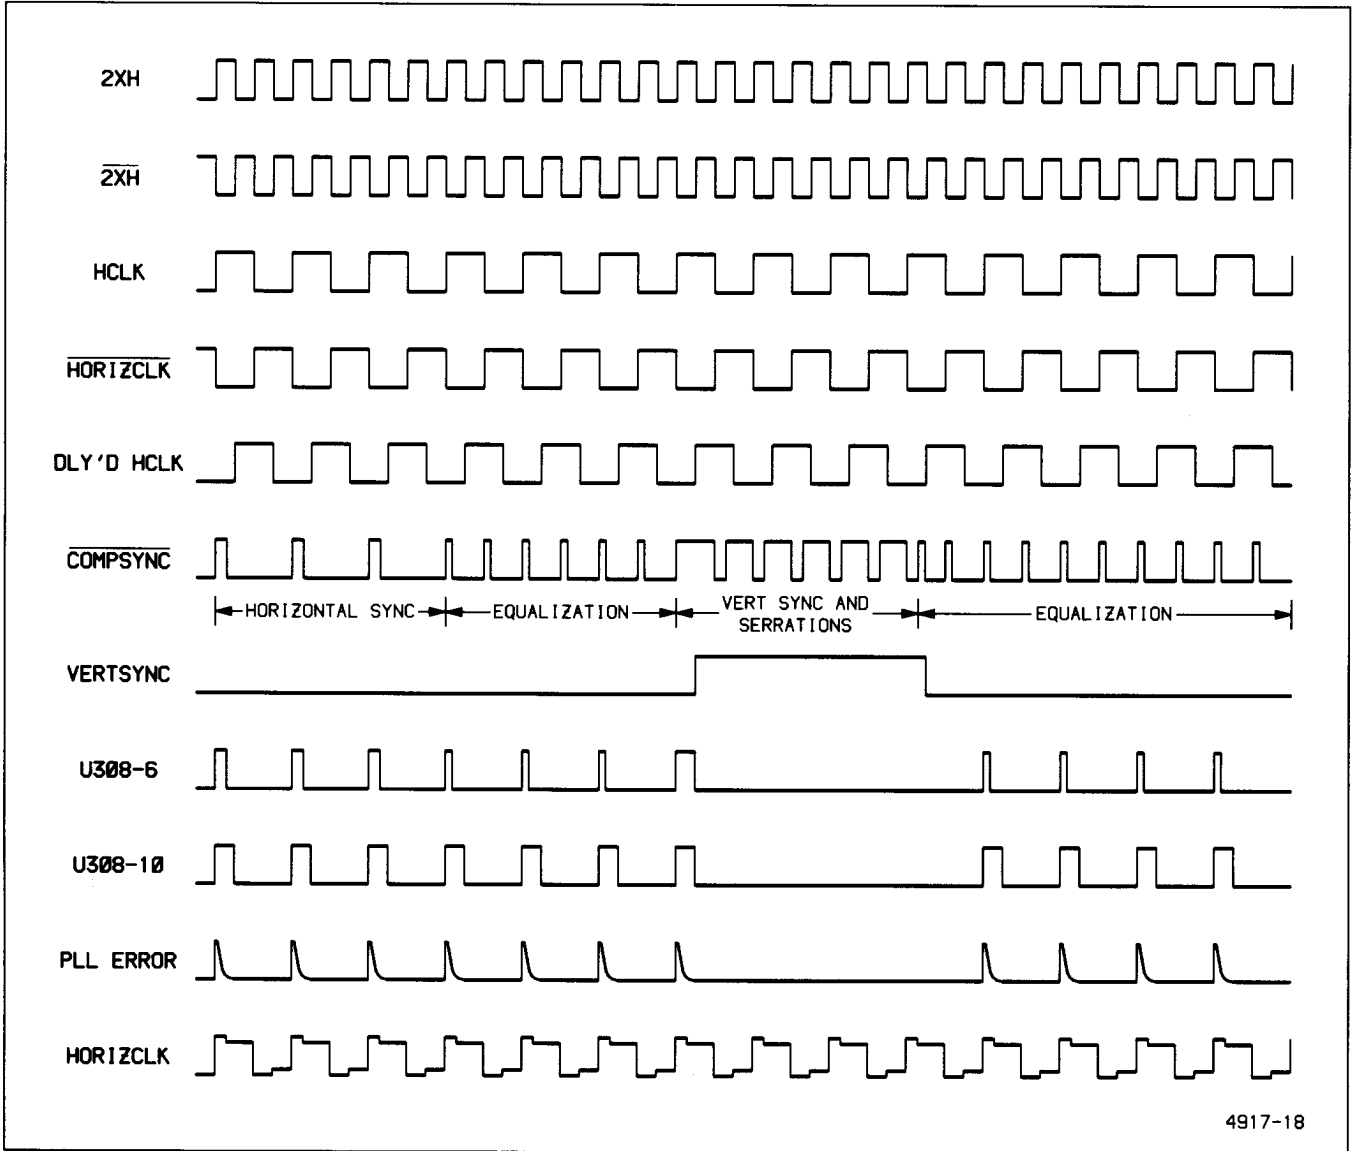

Figure 3-13. Video Option waveforms.
Since the equalizing and serration pulses in the vertical-sync block occur at twice the horizontal-sync rate (see Figures 3-13 and 3-14), every other one must be prevented from triggering the monostable multivibrator to keep the line count correct. The DLY'D HCLK (delayed Horizontal clock) applied to the base of U420B (via R210) holds that transistor on for a period of time between the normal horizontal line-sync pulses. This action effectively removes the unwanted pulses from the HORIZCLK output by preventing them from triggering the multivibrator circuit.
**PHASE-LOCKED LOOP (PLL).** Phase-Locked Loop U314 locks onto the horizontal-sync signal to produce a synchronized clock at twice the horizontal-sync rate (2XH). The 2XH clock is used to extract the various sync- and field-identification signals from the composite-sync waveform. It is also divided and delayed to obtain the DLY'D HCLK (see Figure 3-13) signal used in eliminating alternate equalizing and serration pulses from the HORIZCLK signal and the input to the PLL Phase Comparator inputs.
When lock is achieved, the phase difference between the two input signals becomes very small. The PLL LOCK pulse output level remains in the HI state (no error) long enough that C330 is allowed to charge positive and turn off transistor Q330. UNLOCK then goes LO to remove the resets from flip-flops U310A and U220A, allowing them to operate, and  $\overline{TVCLAMP}$  goes LO to enable the Channel 2 Vertical Display Clamp circuit. Unwanted equalizing pulses and the vertical-sync serrations are now prevented from passing to PLL Phase Comparator inputs by the DLY'D HCLK (delayed horizontal clock) and VERTSYNC signals applied to the PLL Phase Comparator Input NOR-gates, U308B and U308C (see Figure 3-13).